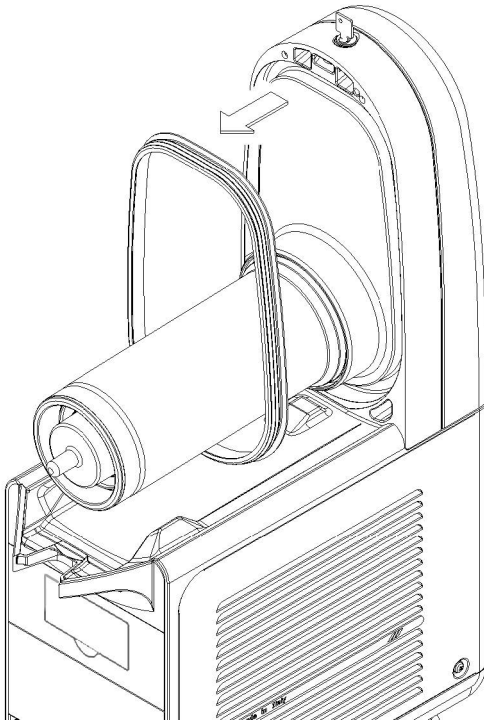

figure 11
- 4 Remove the gasket from its housing (see figure 11).